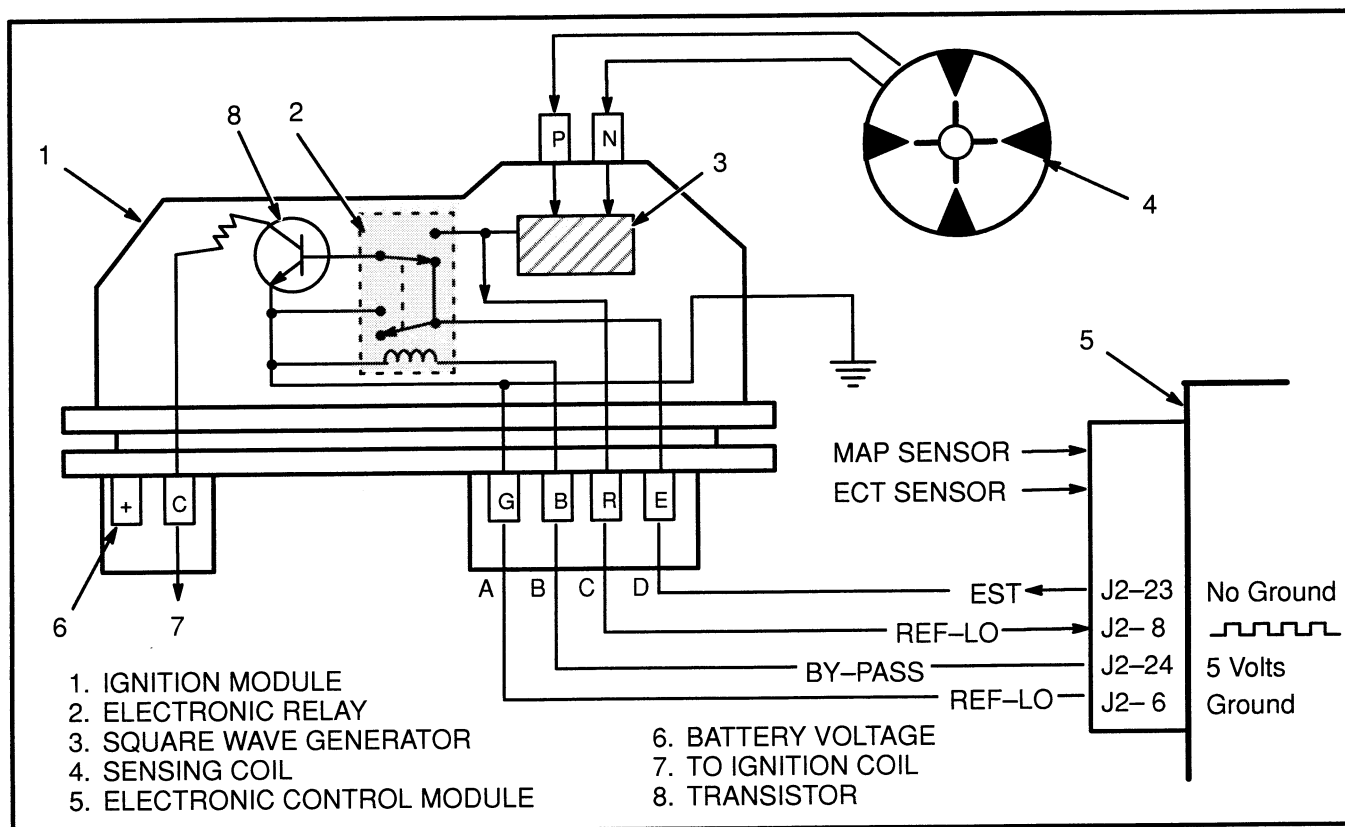

FIGURE 6. IGNITION MODULE WHEN ENGINE IS RUNNING
See FIGURE 6. When the engine speed is approximately 400 rpm, the ECM determines that the engine is running and applies 5 volts on the "BY-PASS" wire to the ignition module. This voltage energizes the electronic relay (2) and makes the following changes: The "EST" wire is not grounded and is now connected to the base of the transistor (8). The sensing coil is disconnected from the base of the transistor (8).